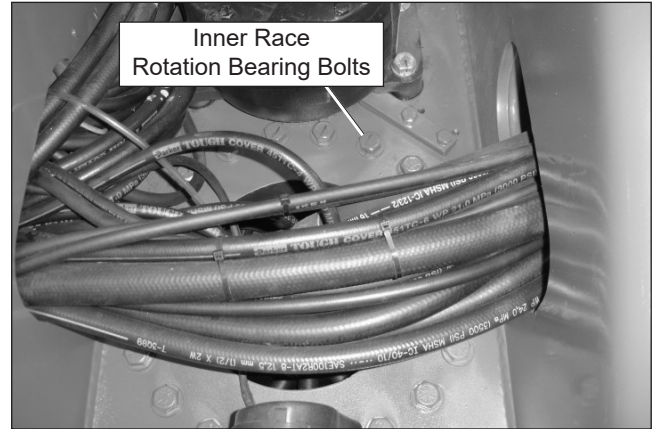

Figure 7.13 – Rotation Bearing Bolts
3. Raise the main boom to access the inner race rotation bearing bolts in the turntable (refer to Figure 7.13). The outer race bolts can be viewed from under the chassis looking upward.